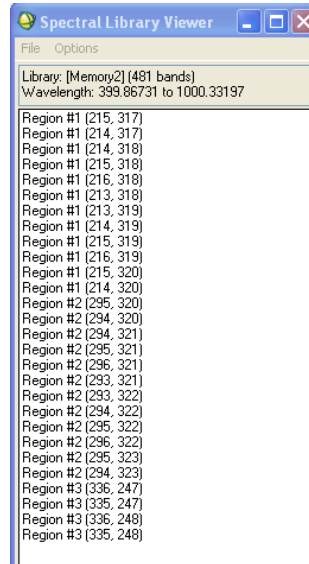

Figure 10c. Spectral Library Viewer window
- The file will show up in the available bands list. Right click on the file and select the Spectral Library Viewer to open the spectra into the list (Figure 10c).